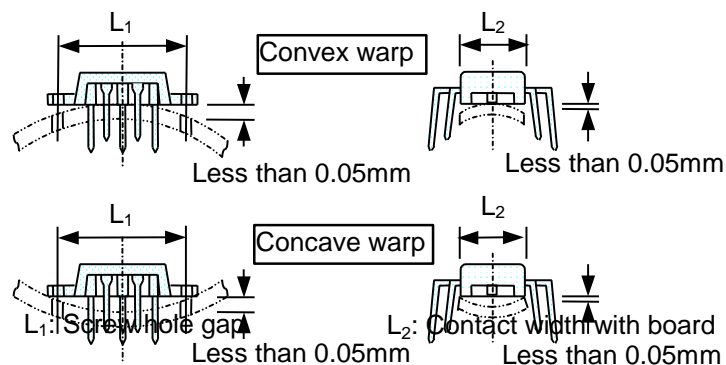

Fig. 10 Heat sink warping:
- (a) To avoid a heat sink causing convex or concave warping, keep the warp between screw holes less than  $0.05\text{mm}$  (Fig. 10). Also, twist to a maximum of  $0.05\text{mm}$ .